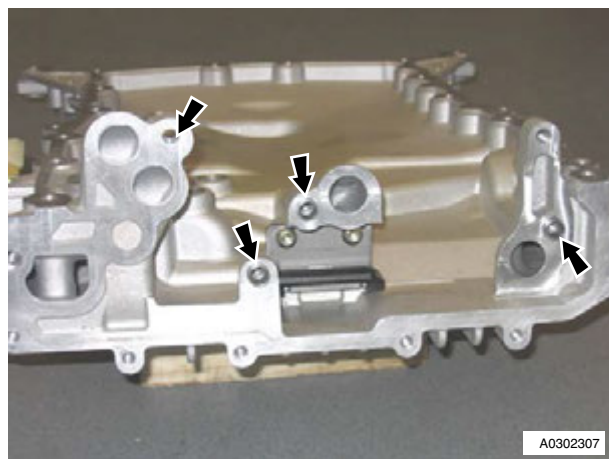

Figure 8
9. Remove dowels (x4) from sump for oil pressure and scavenge pumps location (refer to Figure 8).